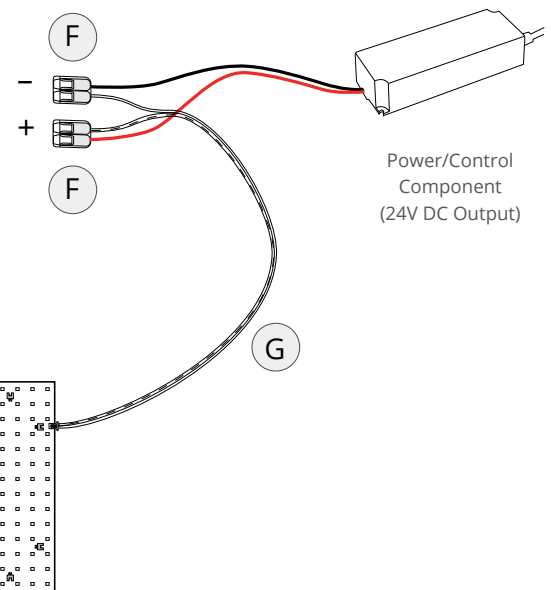

Figure 8
Power lead (G): Use the power lead (G) to route power from the power supply to a single sheet or a set of up to eight Light Sheets. See Figure 8.
Wago splicing connectors (F): The Wago® connectors (F) are provided for convenient power connection to the supply wires. They can be used in place of wire nuts, securing wires of the same polarity together. *The grey striped wire of the power lead (G) is positive (+) and the solid white wire is negative (-).* See Figure 8.